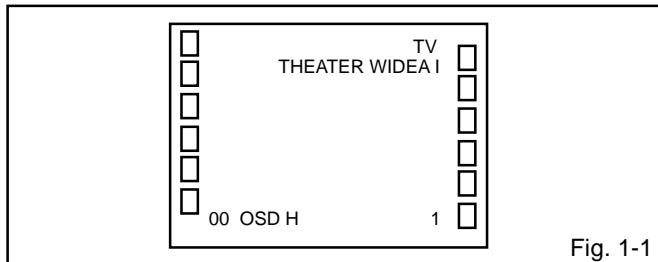

Fig. 1-1
1. In the condition of NO indication on the screen. Press the VOL. DOWN button on the set and the Channel button (9) on the remote control for more than 2 second to appear the adjustment mode on the screen as shown in Fig. 1-1.
4. Activate the adjustment mode display of Fig. 1-1 and press the channel button (01) on the remote control to select "CUT OFF".
4. Activate the adjustment mode display of Fig. 1-1 and press the channel button (24) on the remote control to select "R.BIAS".
6. Adjust the VOL. UP/DOWN button on the remote control to whiten the R.BIAS(C), G.BIAS(C), B.BIAS(C), R/G.DRV(C), B/R.DRV(C), R.BIAS(W), G.BIAS(W), B.BIAS(W), R/G.DRV(W) and B/R.DRV(W)" at each step tone sections equally.
3. Activate the adjustment mode display of **Fig. 1-1** and press the channel button **(00)** on the remote control to select "OSD H".
6. Activate the adjustment mode display of **Fig. 1-1** and press the channel button **(02)** on the remote control to select "H.POSI".
9. Activate the adjustment mode display of **Fig. 1-1** and press the channel button **(04)** on the remote control to select "H. SIZE".
7. Activate the adjustment mode display of **Fig. 1-1** and press the channel button **(11)** on the remote control to select "V. CENT".
10. Activate the adjustment mode display of **Fig. 1-1** and press the channel button **(05)** on the remote control to select "V. SIZE".
7. Activate the adjustment mode display of **Fig. 1-1** and press the channel button **(06)** on the remote control to select "V. LIN".
4. Activate the adjustment mode display of **Fig. 1-1** and press the channel button **(43)** on the remote control to select "BRI CENT".